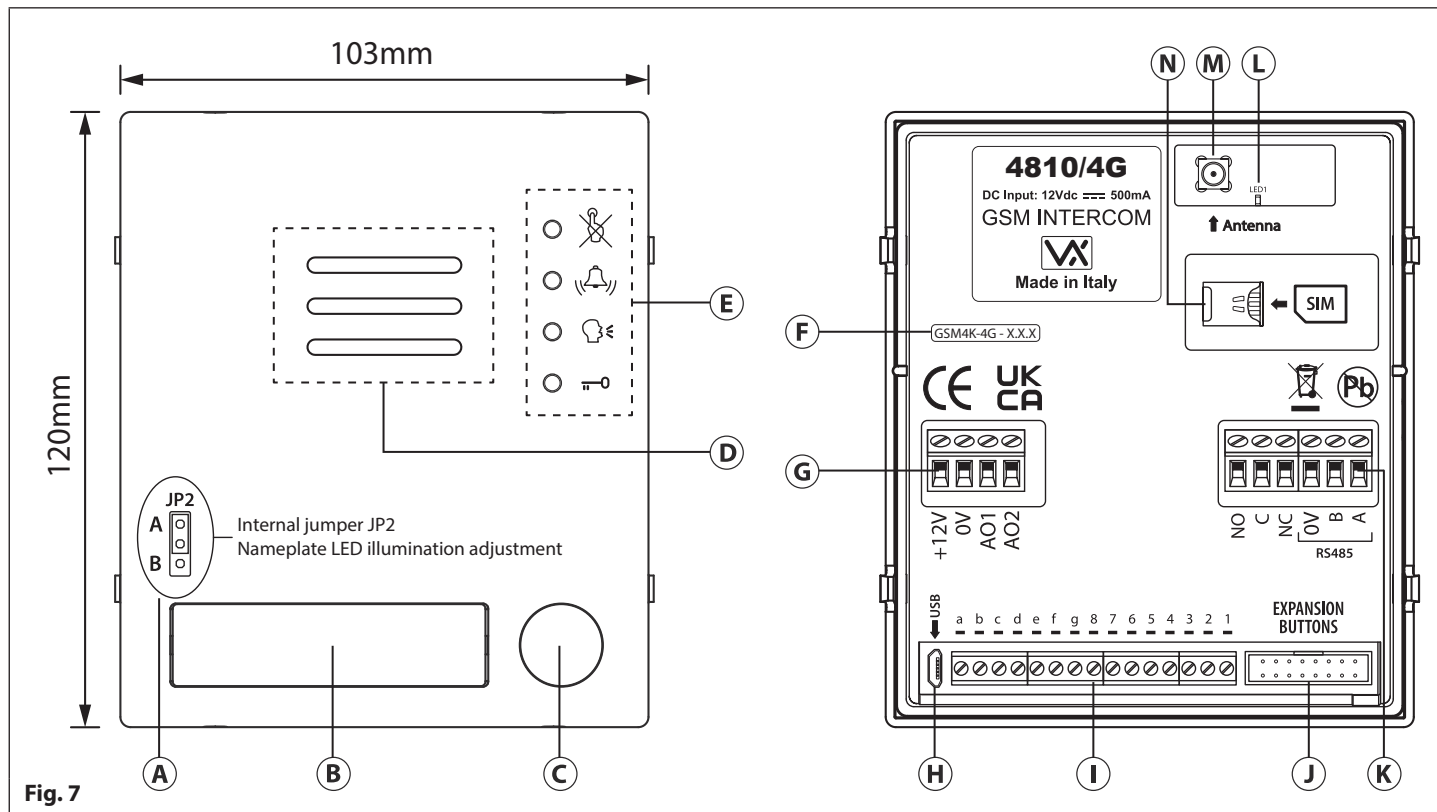

Fig. 7
The nameplate LED illumination jumper JP2 is located behind the GSM module's front fascia, as shown in Fig.7, (A). To access the jumper the fascia must be removed and the jumper can be adjusted as required. When JP2 is set in position A (upper 2 pins) the LED is set for bright illumination, when JP2 is set in position B (lower 2 pins) the LED is set for low illumination and if JP2 is completely removed this will disable the nameplate LED's.